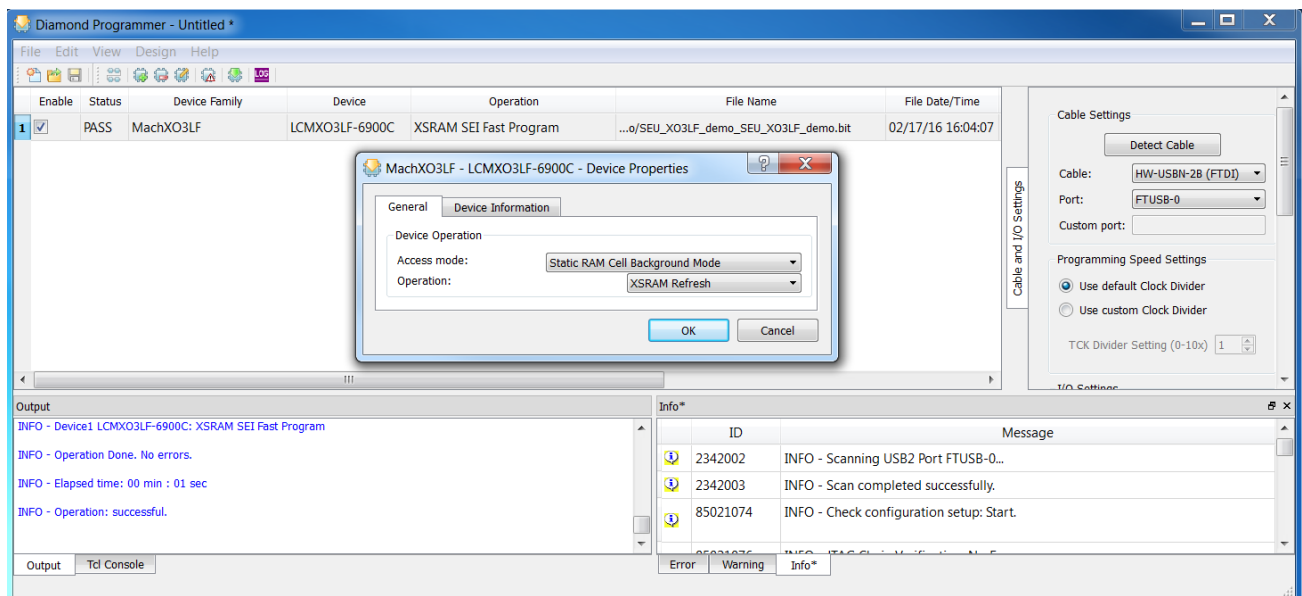

Figure 8.13. Background Refresh Command
3. Select *Static RAM Cell Background Mode* from the **Access Mode** dropdown list, and *XSRAM Refresh* from the **Operation** dropdown list as shown in Figure 8.13.